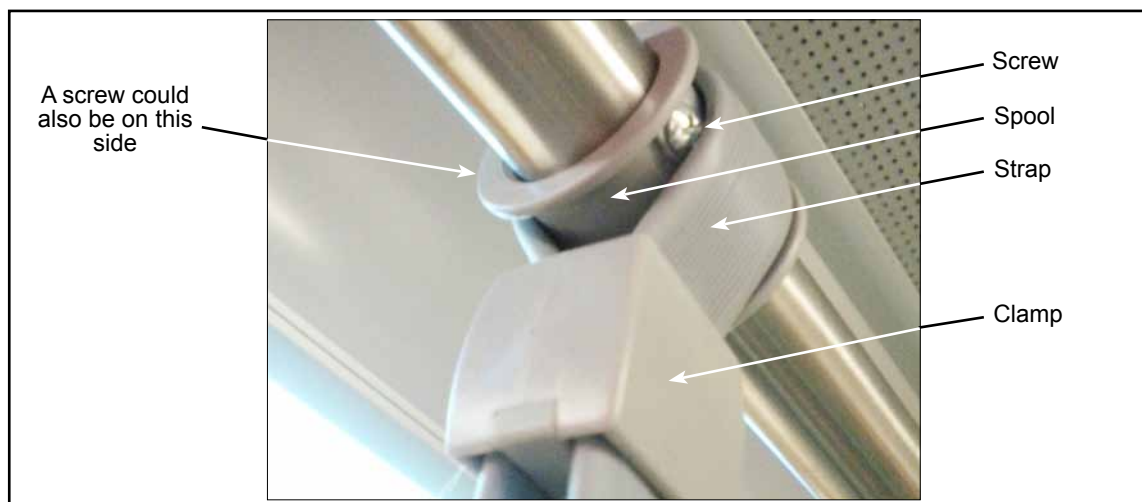

Figure 1 - Grab Handle
- 1.1. Move away the strap to avoid any damage to it, and remove the screw(s) from the spool. See Figure 1.